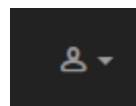

Figure 10. Partner Portal (Profile icon)
3. Hover the mouse cursor over the Profile icon in the upper right-hand corner of the web page (Figure 10 \(page 53\)). Click the **Account** option.